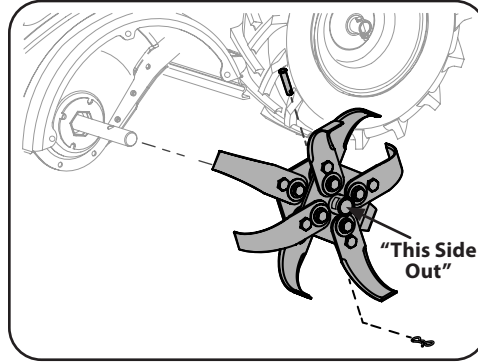

Figure 4-7
1. Remove the bow-tie cotter pin from the clevis pin, and remove the clevis pin securing the tine assembly to the transmission drive shaft. Slide the tine assembly off the shaft. See Figure 4-7.